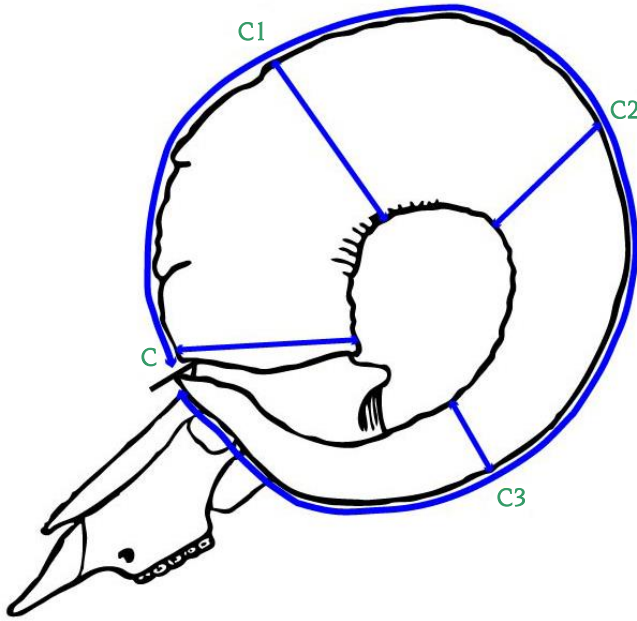

Figure 6
2. Circumference. Take the length of the longest horn and divide it into thirds. (Figure 6) Record the intervals of the longest horn on the score sheet. Starting at the base and using a pencil, mark both horns at the same intervals all the way to the tips. Measure the circumference of each horn at the base (C), the first quarter (C1), the second quarter (C2), and the third quarter (C3). These measurements are to be made at a 90-degree angle to the axis of the horn. Do not use a tape with a 90-degree hook on the end; instead, use a steel tape with a ring on the end because only a tape that will lie flat completely will give an accurate measurement of the circumference. If you have no steel tape without a hook, make a loop on a hooked-steel tape and start at the 10-inch mark and deduct 10 inches from the measurement.
The base measurement is the most challenging of all circumferences, for it must be taken at a 90-degree angle to the axis of the horn, the inside of the tape must touch horn material at all times, and no air gaps on the edges of the horn may be bridged. (Figure 6 and 7)